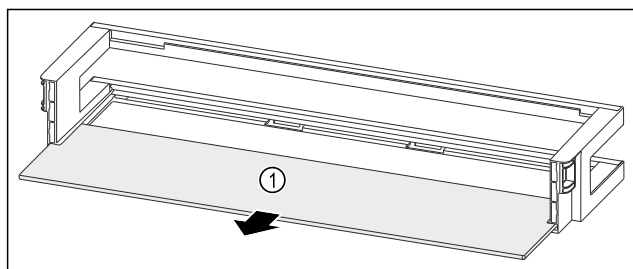

Fig. 162 Door rack with shelf
- Remove the shelf Fig. 162 (1).